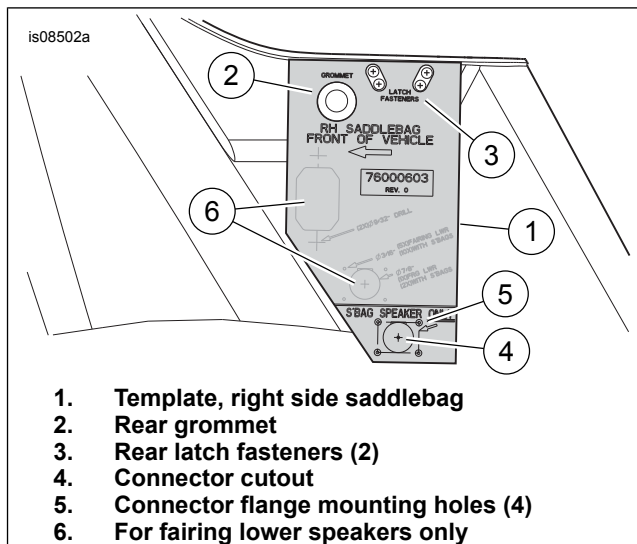

Figure 1. Right Saddlebag Drilling For Stage II Saddlebag Speaker Installation
3. See Figure 1. Place the template (1) on the saddlebag. Align the grommet (2) and latch (3) fastener openings. Drill the hole at locations (4) and (5), beneath the remark "S'BAG SPEAKER ONLY".
4. Drill four 4.5 mm (3/16 in) holes (5) for the lower connector flange mounting locations. Drill a 22.5 mm (7/8 in) hole (4) for the connector location.
7. **If also installing an amplifier in the right saddlebag as part of the Fairing Lower Speaker Installation Kit:** Cut the openings (see Figure 1, Items 6) for the two upper bulkhead connectors now, per the instructions in that kit.